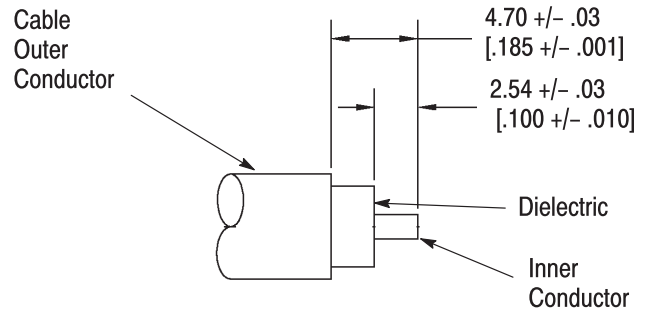

Figure 2
2. Trim the dielectric and inner conductor as shown in Figure 2.